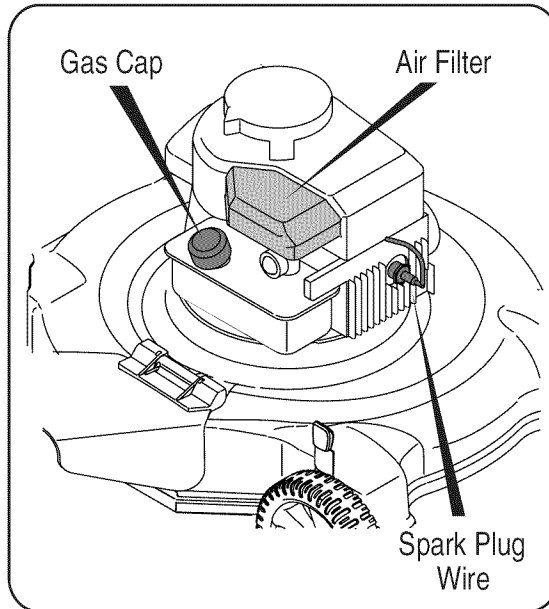

Figure 4
1. Disconnect spark plug wire. Drain gasoline from lawn mower, or place a piece of plastic under the gas cap. See Figure 4.